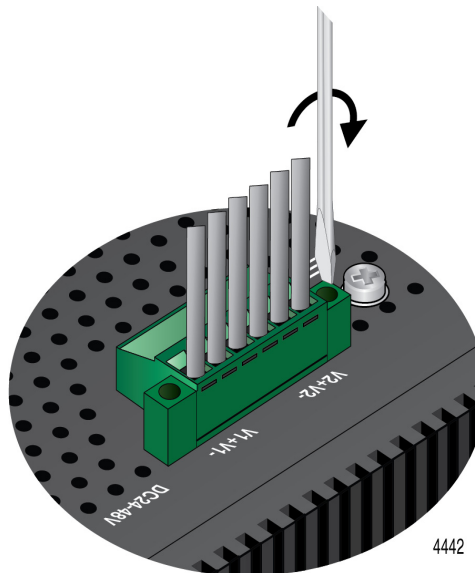

Figure 37. Fasten the Power/Alarm Connector to Chassis
13. Tighten the two connector fastening screws on the ends of the power/ alarm connector to the chassis as shown in Figure 37.